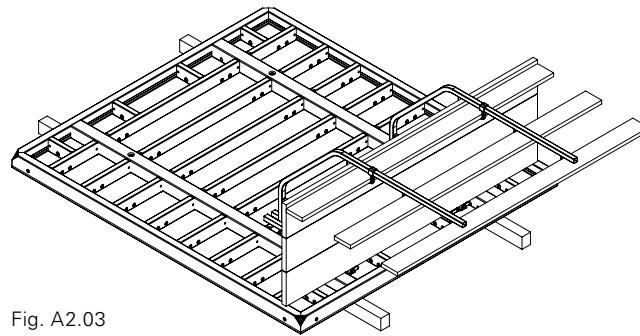

Fig. A2.03
1. Mount the working and concreting platform on the horizontally-positioned panel, see Section A13. (Fig. A2.03)